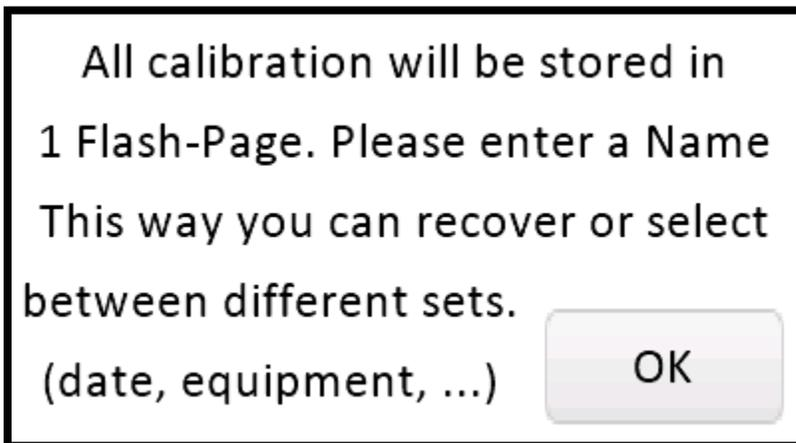

Figure 29. MAXREFDES183# Calibrate data saved.
39. The MAXREFDES183# has onboard nonvolatile memory (FLASH) which is used to store calibration data for the DAC and ADC in MAX22000. The next screen in this process (**Figure 29**) describes the storage of the calibration data for the MAXREFDES183#. Each time the system is calibrated, the entire system calibration data will be saved to the FLASH. The MAXREFDES183# asks the user to enter a name for the calibration data set.